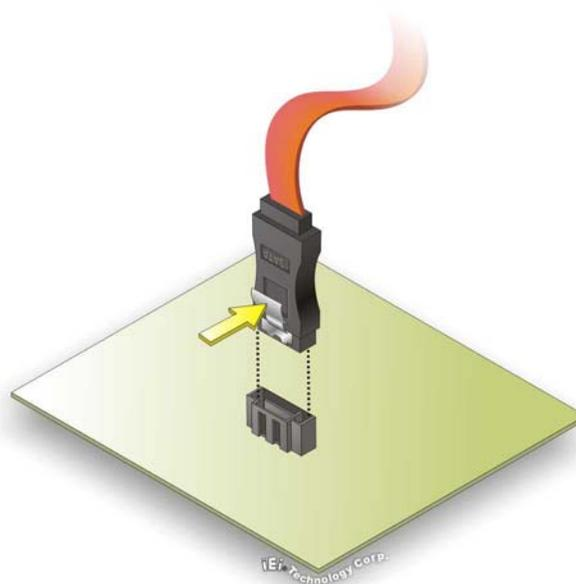

Figure 5-14: SATA Drive Cable Connection
Step 2: Insert the cable connector. Press the clip on the connector at the end of the SATA cable and insert the cable connector into the onboard SATA drive connector. See **Figure 5-14**.